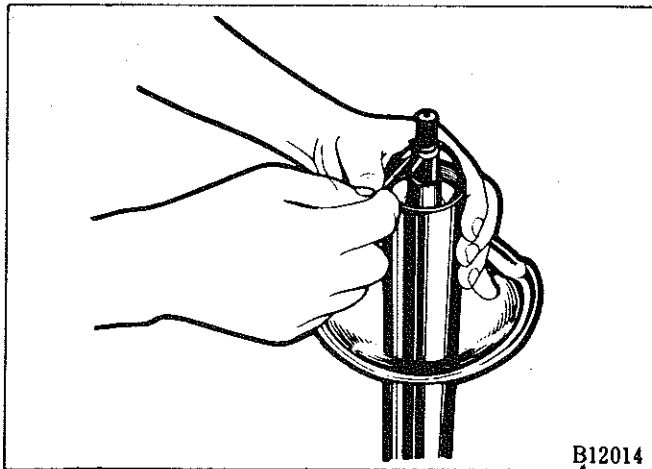

Fig. 10—Removing the "O" ring
(7) On imported and 2,6 litre strut assemblies, drain off the fluid and using a small screwdriver remove the square section "O" ring (Fig. 10). Slowly draw the piston rod assembly and guide out of the strut housing and remove the guide from the piston rod.